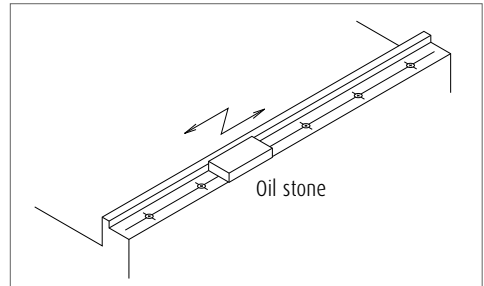

Fig. 12
(3) Installation procedures
- For both methods, wipe off the rust preventive oil applied to the linear guide. Remove burrs and small bumps on the machine base and table mounting surface with an oilstone (Fig. 12).